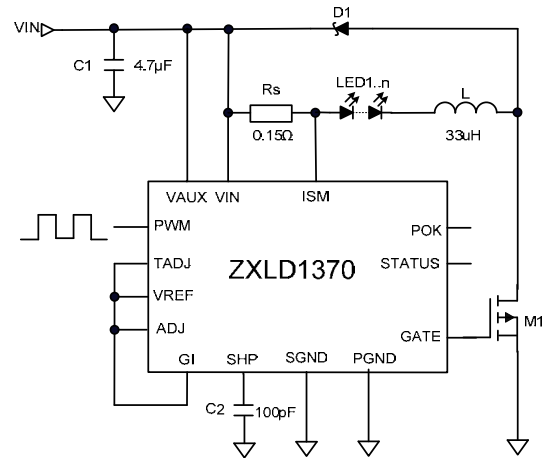

Figure 13. Buck configuration
a) Buck mode – the most simple buck circuit is shown in Figure 13
A basic ZXLD1370 application circuit is shown in Figures 13 and 15.